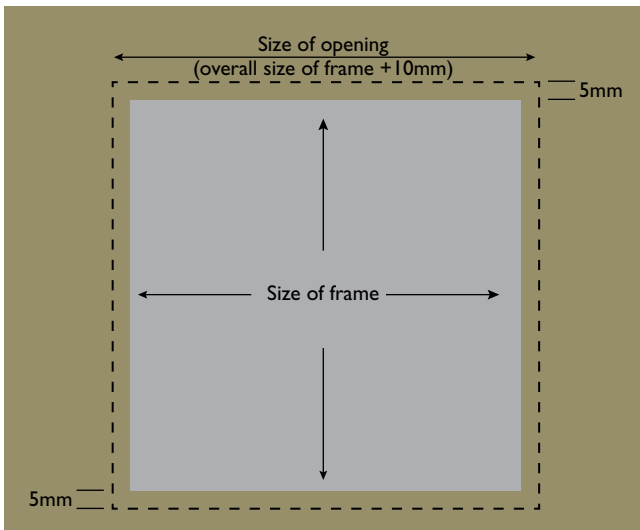

FIGURE 1: CUTTING HOLE IN LINING BOARD
1. Cut a hole in the lining board to match panel size as marked on box adding 5mm each side to allow for clearance (refer to Figure 1).